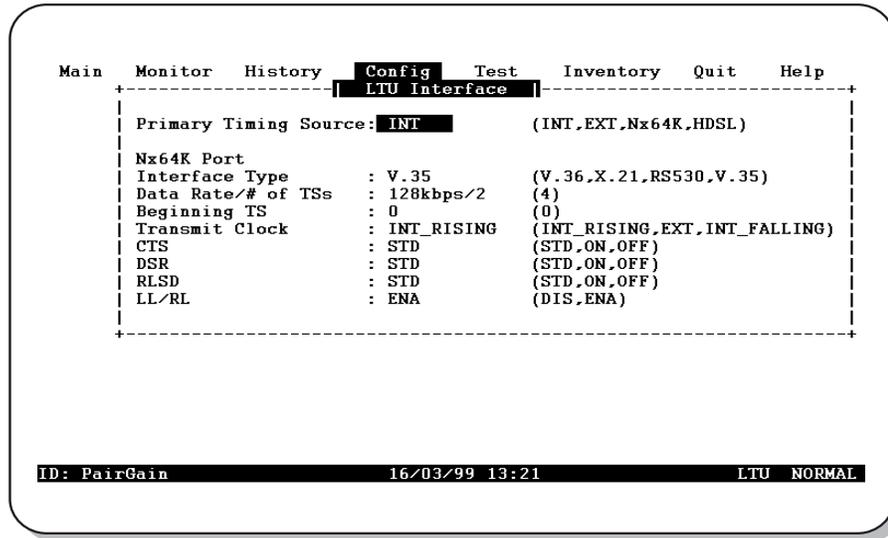

Figure 24. Config LTU Interface Menu
- **L** for the *Config LTU Interface* menu (Figure 24).